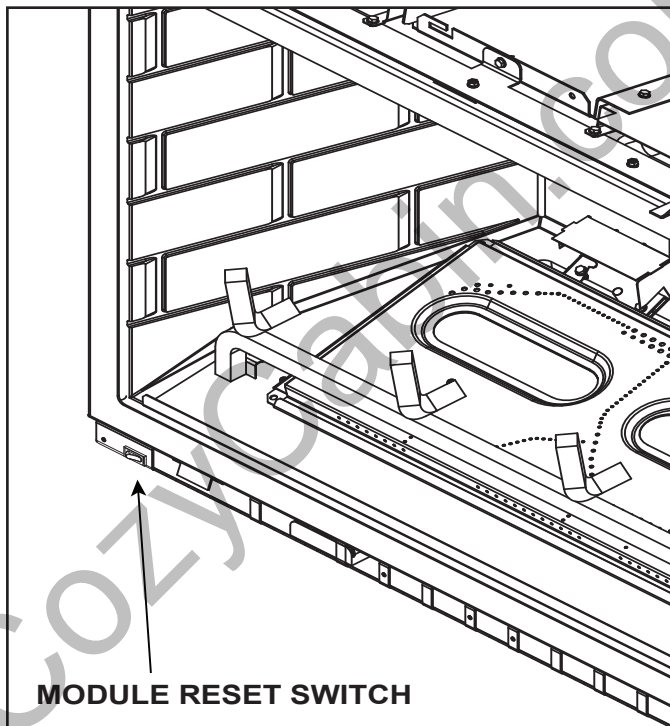

Figure 3.7. Module Reset Switch
- Locate the module reset switch. (See Figure 3.7).
- Wait five (5) minutes to allow possible accumulated gas to clear.